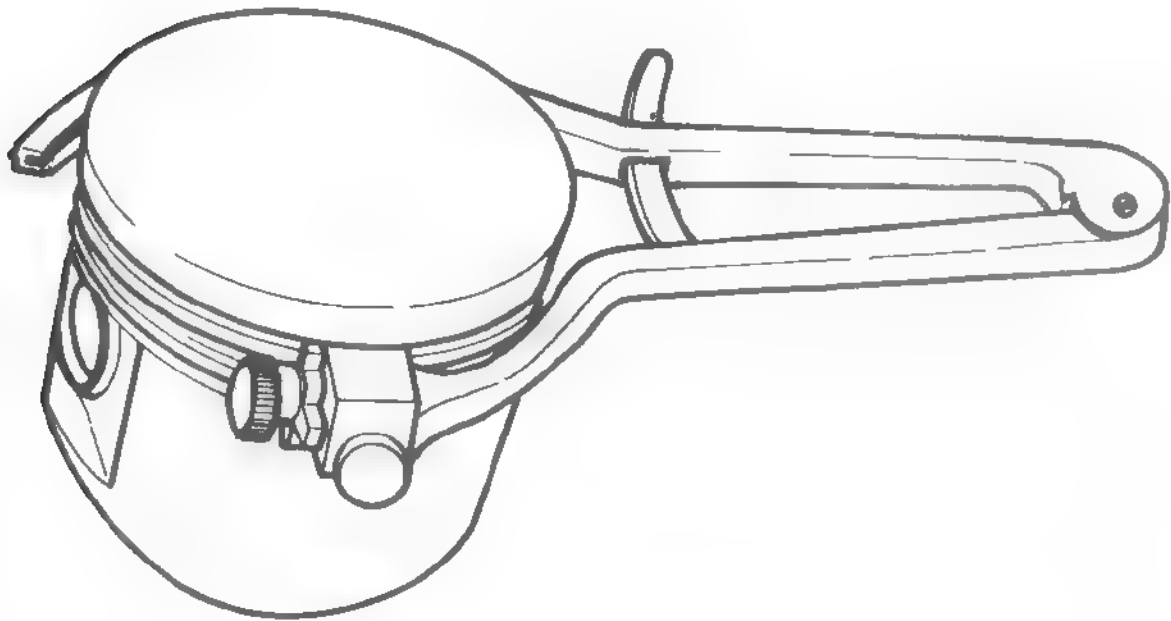

Fig. 4.65. REMOVING CARBON DEPOSIT FROM PISTON RING GROOVES BY MEANS OF S-9 DEVICE;
- Clean piston grooves from carbon deposit by means of special $\varnothing 9$ device as shown in Fig. 4.65.